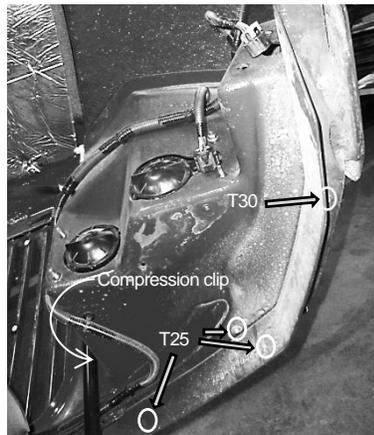

Figure 5 Headlight/Signal Torx fasteners & clip
- ii. Remove the (1) torx screw from the signal light with a T30 driver (see FIGURE 5).
- iii. Remove the (3) torx screws from the headlight trim with a T25 driver (see FIGURE 5).
- iv. Remove round compression clip from headlight bezel. Gently pry off with flat head screw driver. Or gently pull headlight bezel out of clip. Pay attention not to lose clip when it detaches (see FIGURE 5).